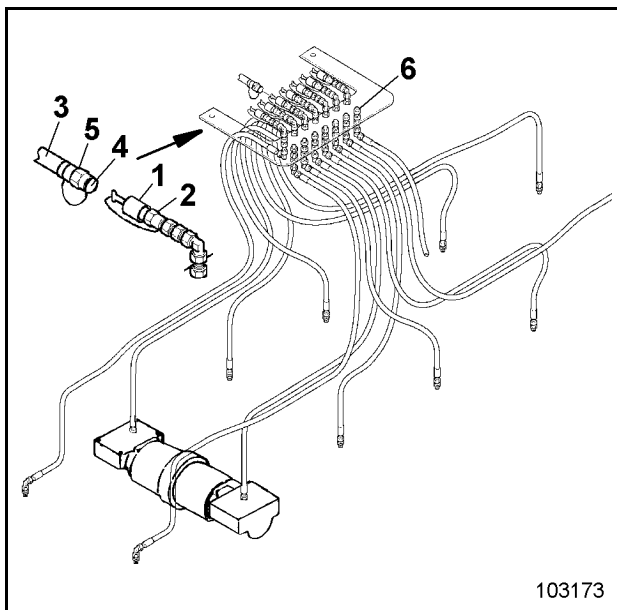

Fig. 3-136:
- Unscrew plug (6, Fig. 3-136:) from breather line.
- Remove dust cap (1) from coupling (2).
- Remove dust cap (4) from plug (5).
- Connect grease hose (3) to coupling (2).
- Screw on plug (6) to breather line.
- Disconnect the grease hose (3).